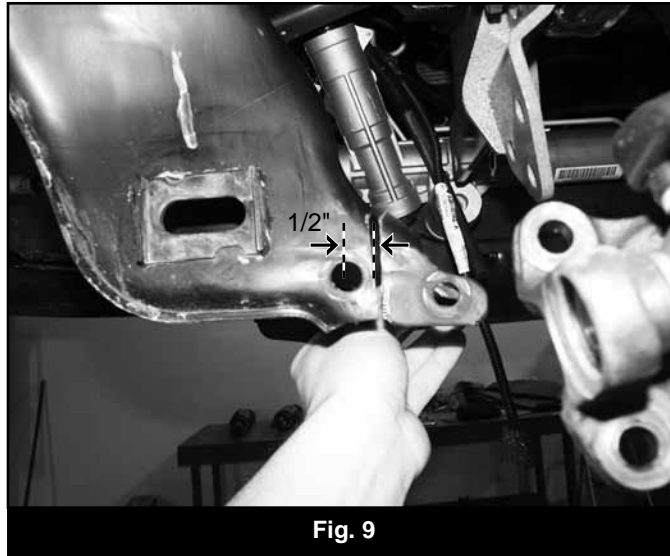

Fig. 9
36. The driver's side rear lower control arm pocket must be trimmed to provide clearance for the differential in its lowered position. Measure inward from the center of the outer OE crossmember mounting hole 1/2" and mark. Repeat on the opposite side of the pocket. Make a continuous line connecting the two marks over the top edge of the pocket. Trim the pocket on the line with a saw-zall or cut off wheel. Paint any exposed metal to prevent corrosion (Fig 9).